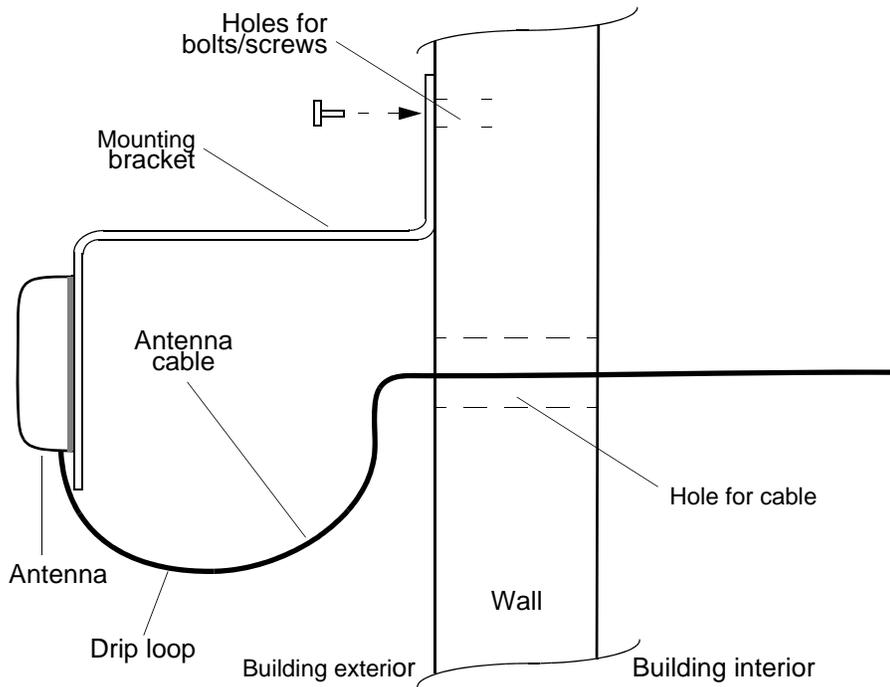

Figure 3-10 Wall Antenna Mounting
7.	Push the SMA connector of the antenna cable through the hole drilled in the wall in Step 3 . Be sure the antenna cable forms a drip loop between the antenna and the cable entry into the building (Figure 3-10).